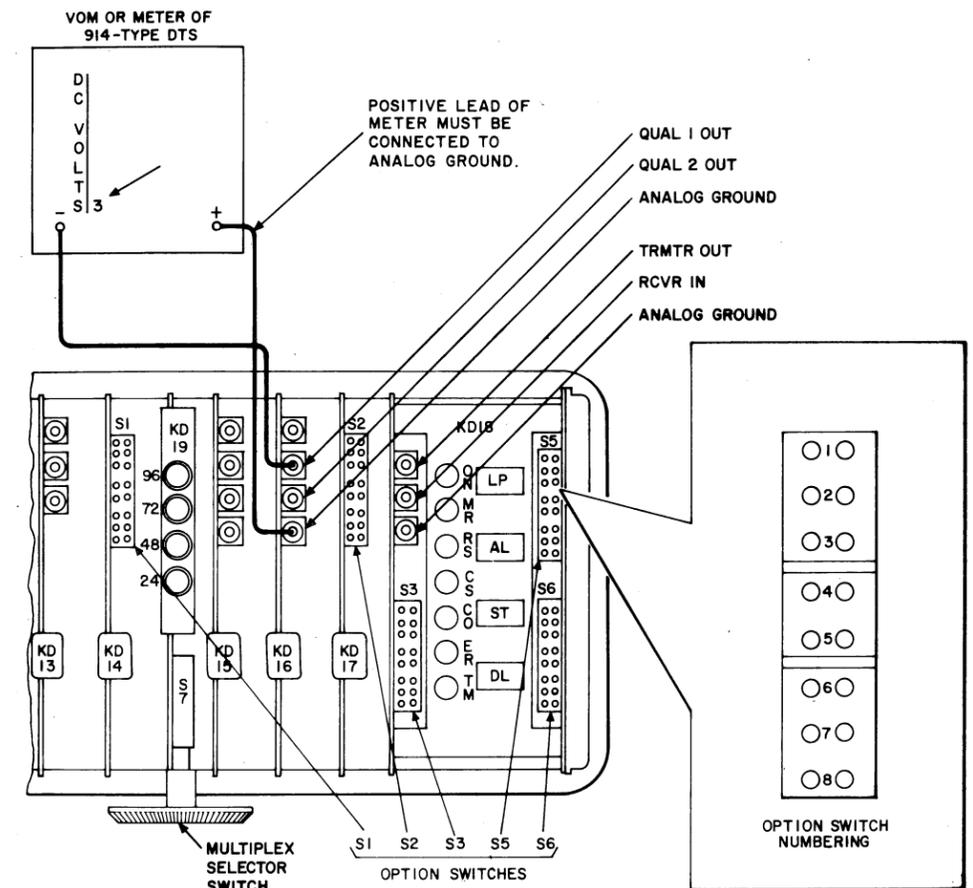

Fig. 5—Compromise Equalizer Test Setup
- (1) Call the STC and verify that options WK(S1-4), WN(S1-2), WP(S3-1), WS(S1-7), XG(S5-6), or XI(S5-8) are installed in the distant-end data set. (Disregard additional options not listed.)
- (2) Refer to Fig. 5 and install options WN(S1-2), WK(S1-4), WS(S1-7), XG(S5-6), or XI(S5-8) in the local data set. (Disregard additional options not listed.)
- (3) Verify that the distant-end data set is in the digital loop-back mode and that the ST switch is depressed.
- (4) Position the multiplex selector switch of the local data set to 2400 bps. (This conditions the **quality 2 out** test point on KD16 of the local data set to indicate the quality of the received signal at the distant-end data set.)
- (5) Apply power to the local data set.
- (6) Depress the ST switch of the local data set. Ignore momentary blinking of the status indicators. The ER indicator is lighted while the ST switch on the distant-end data set is depressed.
- (7) Measure and record the dc voltage at **quality 1 out** test point as shown in Fig. 5.
- (8) Remove option shorting jack S1-4 and reinstall at S1-5.
- (9) Measure the dc voltage at **quality 1 out** test point as shown in Fig. 5.
(11) Install option WM (S1-1) in the local data set.
(12) Measure and record the dc voltage at **quality 1 out** test point as shown in Fig. 5.
(13) Remove option shorting jack S1-1 and reinstall at S1-3.
(14) Measure and record the dc voltage at **quality 1 out** test point as shown in Fig. 5.
(15) Remove option shorting jack S1-3 and reinstall at S1-2.
(16) Measure the dc voltage at **quality 1 out** test point as shown in Fig. 5.
(17) Install option shorting jack S1-1, S1-2, or S1-3, which results in the minimum negative voltage magnitude indication (VOM indicates less than 2 volts dc).
(18) Install option WP (S3-1) in the local data set.
(19) Disconnect the VOM negative test lead from **quality 1 out** test point and connect to **quality 2 out** test point.
(20) Measure and record the dc voltage at **quality 2 out** test point. (Refer to Fig. 5.)